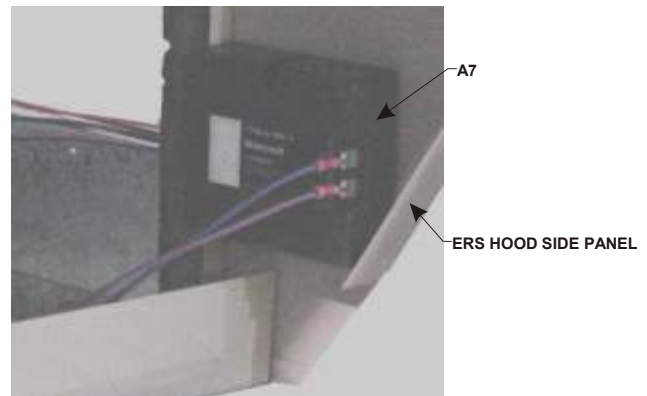

Figure 15
10. Installations using an A7 enthalpy sensor - Remove the screws to the filter access panel of the fresh air hood on the ERS and remove the air filter. Reinstall the A7 enthalpy control sensor with retained screws removed on the bottom panel of the fresh air intake hood. **See Figure 15.**